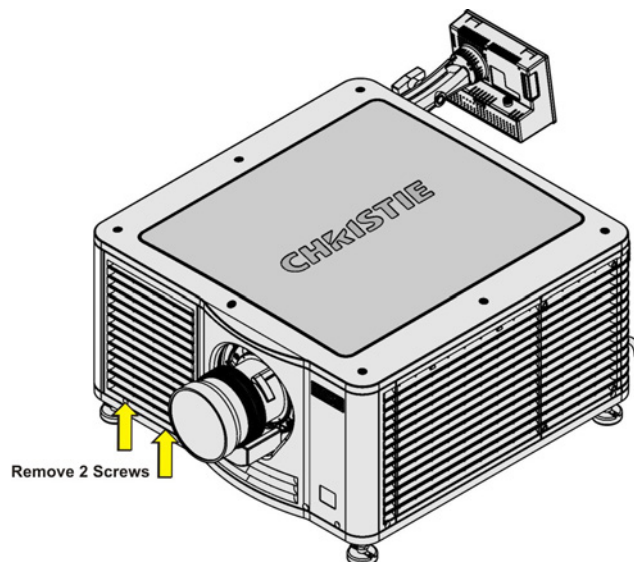

Figure 6-4 Remove Light Engine Air Filter
1. Loosen the 2 captive screws on the bottom of the filter cover. (Figure 6-4)